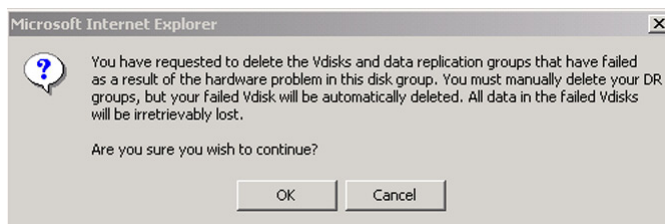

Figure 51: Message confirming Vdisk and DR group deletion
4. A message displays as shown in Figure 51 requesting confirmation that you are deleting failed Vdisks and DR groups, and asks if you wish to continue. Click **OK**.